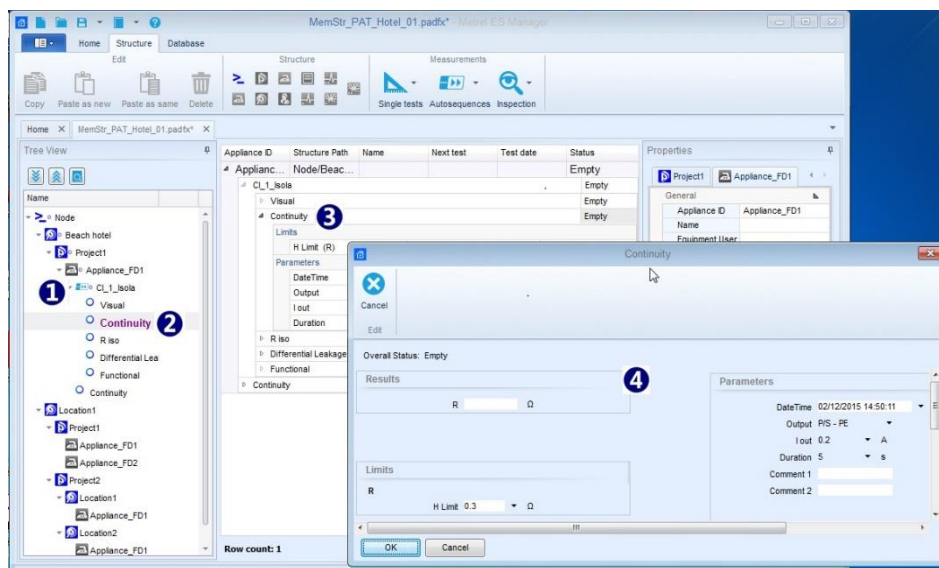

Figure 7.2: Edit Autosequence[®] test parameters and limits
- Parameters and limits can be reviewed and set again later; click on Single test name within Tree view present it content in Result view; double click on it name in Result view opens Single test setting window (4) on **Figure 7.2**.
- If necessary, parameters and limits of Autosequence[®] test can be reviewed and set later, **Figure 7.2**; expand Autosequence[®] test node in Tree view (1) to see it single test content.
- Select Single test in Tree view (2) to present it content in Result view area.
- Double click on Single test name in Result view (3) to open it settings window (4).